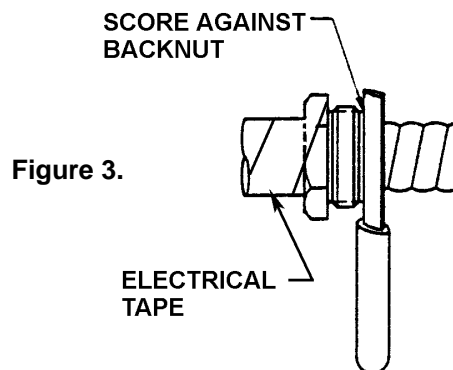

Figure 3.
5. Thread the backnut onto the cable outer conductor and up to the trimmed Jacket - then unscrew one half turn. Temporarily secure the backnut to the cable with electrical tape. See Figure 3.
6. With a knife, carefully cut the outer conductor flush to the backnut. Do not use excessive force that might crush the corrugations, and be careful not to cut through to the center conductor. See Figure 3.